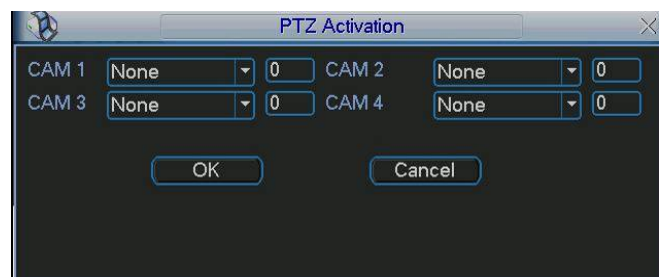

Figure 4-26
- PTZ activation: Here you can set PTZ movement when alarm occurs. Such as go to preset, tour& pattern when there is an alarm. Click "select" button, you can see an interface is shown as in Figure 4-26.